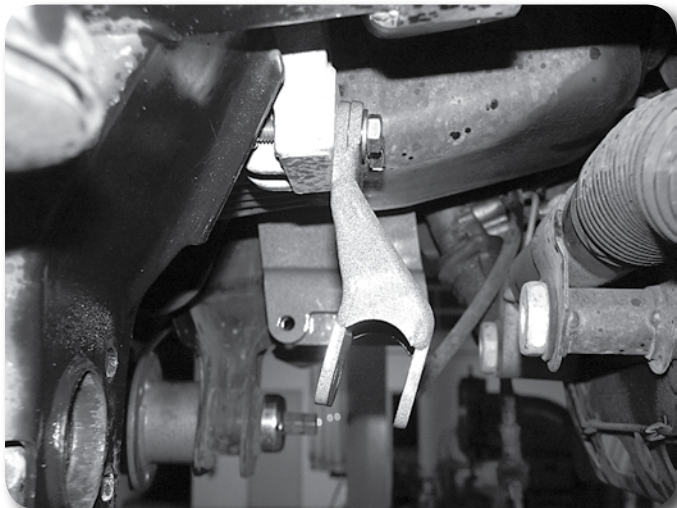

Figure 19
33. Install the provided passenger's side differential drop bracket to the original frame mount with two 1/2" x 2-3/4" bolts, nuts and 1/2" SAE washers. Leave hardware loose **Figure 19**.